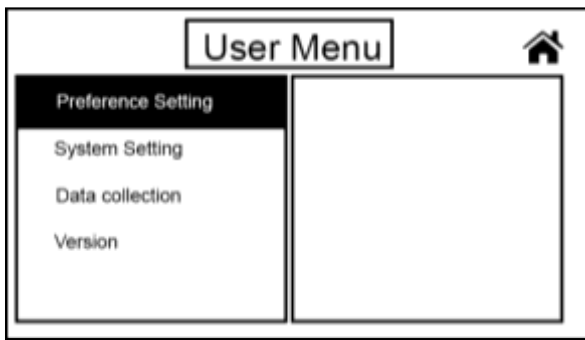
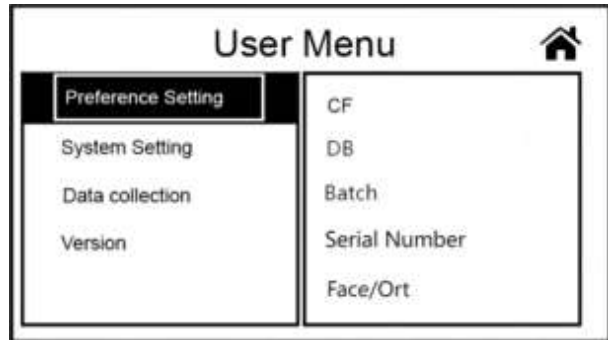

Figure 76
Figure 77
1) Touch the “Menu” key to enter the “User Menu” interface, as shown in Figure 76 below. Then press “Preference Setting” to enter the “Preference Setting” interface, as shown in Figure 77.